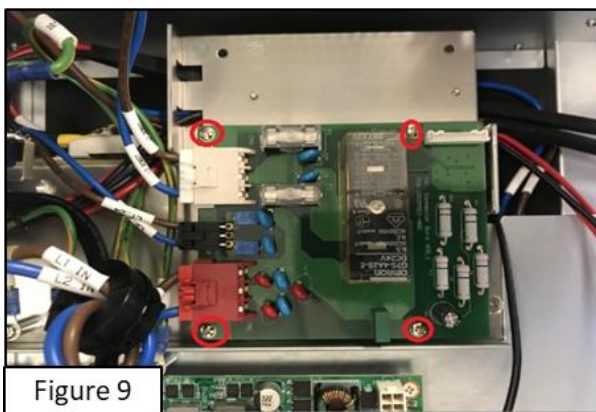

Figure 9
- Refer to the previous steps to disassemble the **Relay Board** (as shown in Figure 9).